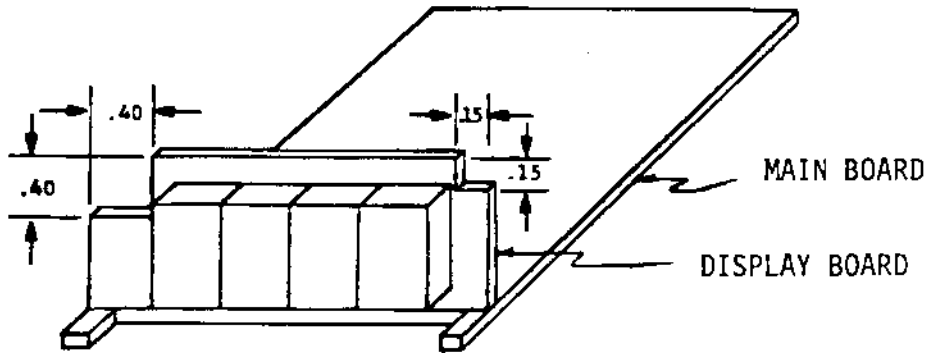
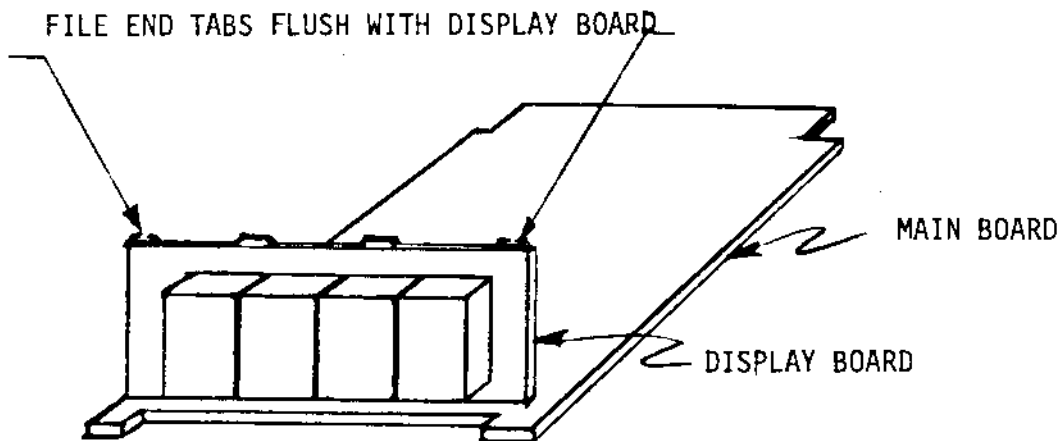

FIGURE 2
FIGURE 3
6. Modify display board per Figure 2 on 267B, 268, 204A/B, 258, 2004, 2003B and per Figure 3 on 2003A and 203A.